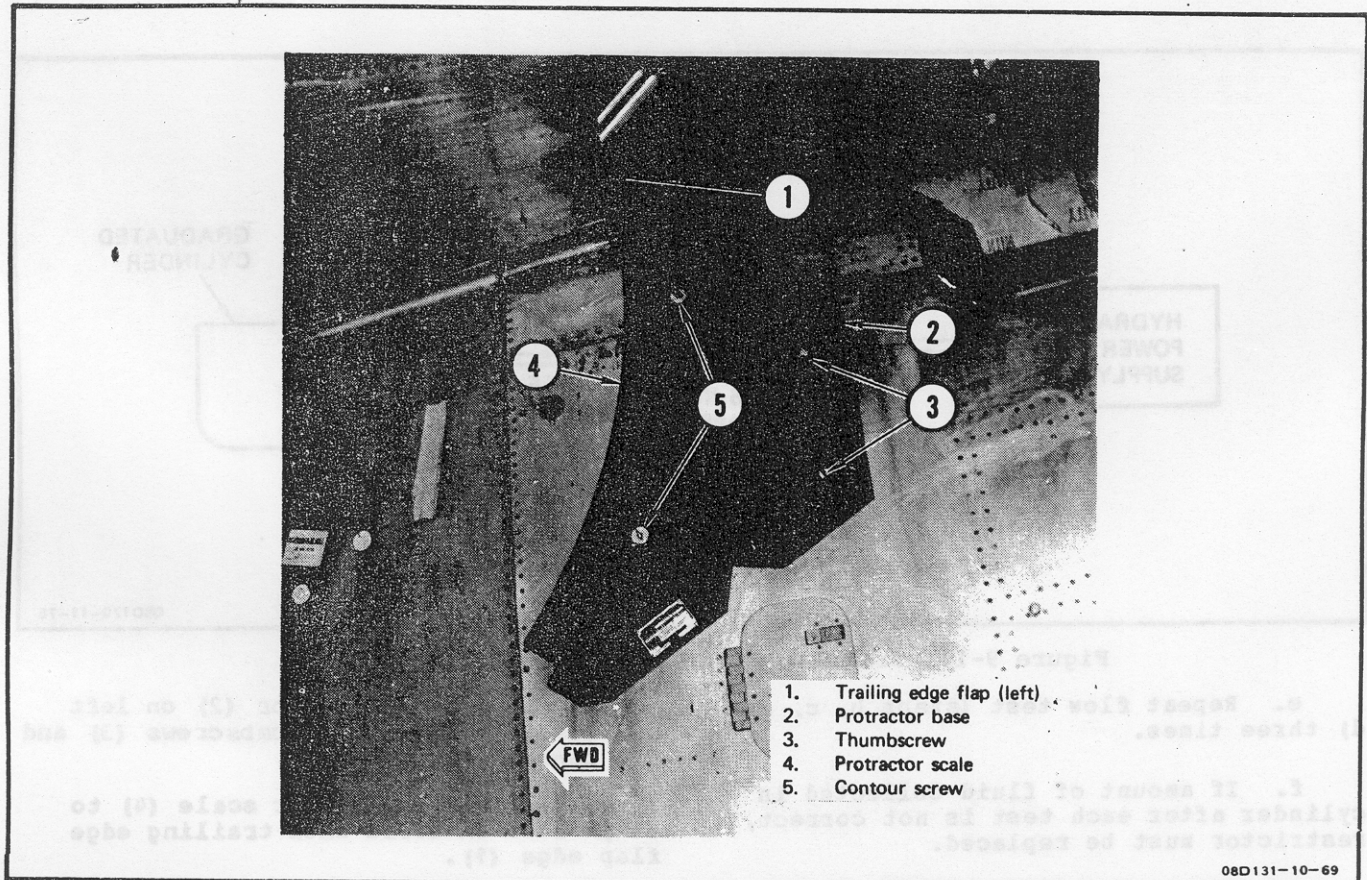

Figure 9-14. Variable Trailing Edge Flap Protractor Installation
b. Install protractor (2) on left aft fuselage with two thumbscrews (3) and two contour screws (5).
c. Adjust protractor scale (4) to align zero on scale with trailing edge flap edge (1).
**9-41. VARIABLE TRAILING EDGE FLAP PROTRACTOR INSTALLATION.** (See figure 9-14.)